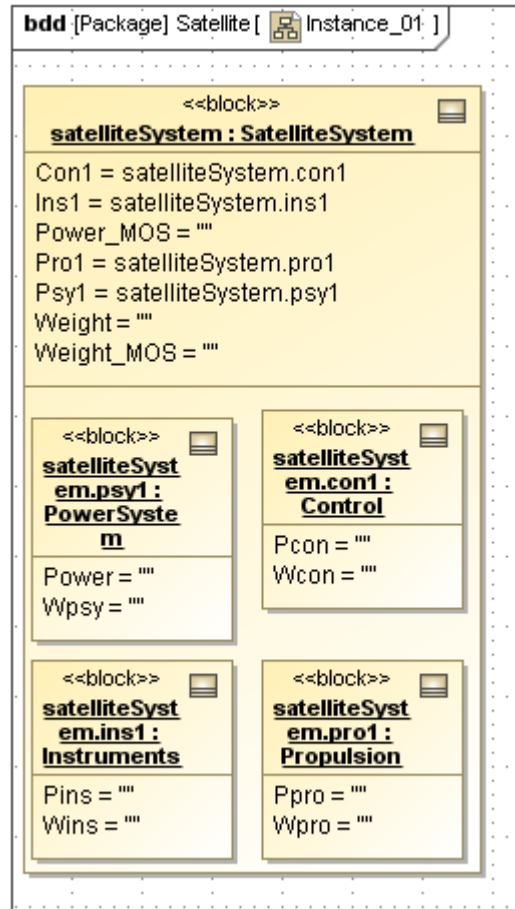

Figure 3.8 Satellite Instance_01 Diagram, after wizard
- b. The diagram **Instance_01** looks similar to Figure 3.8